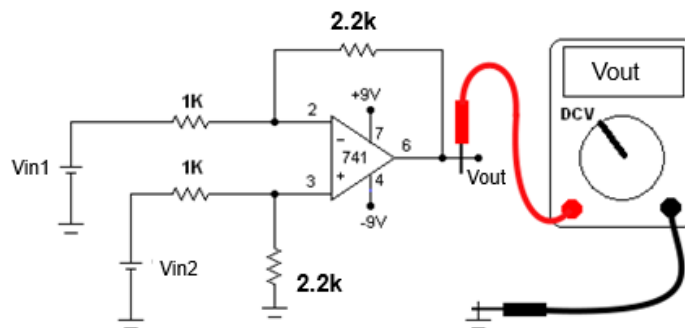

Figure 5 – Differential amplifier
- 1) Calculate the output voltage (V_{out}) of the circuit in Figure 5 for each of the input voltage combinations in Table 1.
- 2) Assemble the circuit in Figure 5 on the breadboard and for each of the combinations of input voltages (V_{in1} and V_{in2}) in Table 2, measure the voltage at the output (V_{out}).